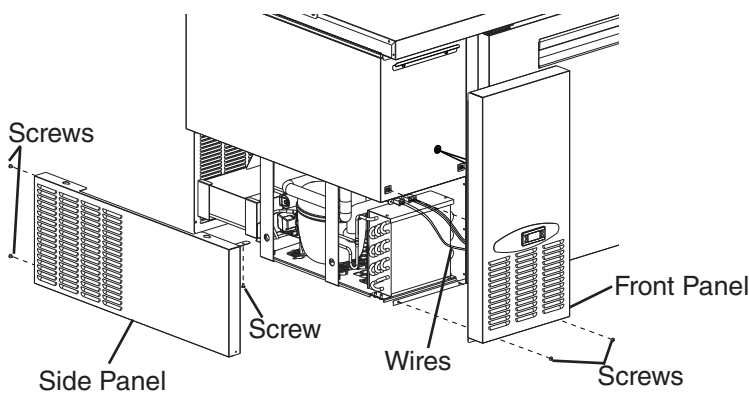

Fig. 40
- 2) Remove the screw securing the front panel, then pull and lift the front panel out slightly to remove it. See Fig. 40. **NOTICE! Be careful not to pull out the front panel too far because there are power wires and thermistor wires attached to the control module in the front panel.**